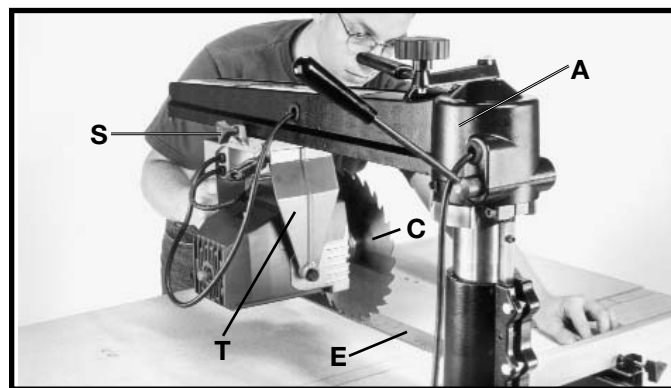
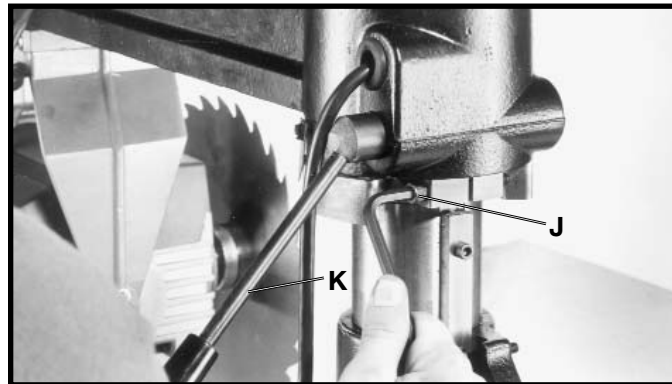

Fig. 33
Fig. 34
4. Loosen cutting-head clamp knob (S) Fig. 33, and slide cutting-head (T) the entire length of track arm (A) as shown to determine if blade (C) travels parallel to the square (E).
5. If an adjustment is necessary, loosen index ring locking screw (J) Fig. 34, and track arm clamp handle (K).
6. Rotate track arm (A) Fig. 33, until blade (C) travels parallel to square (E). Then tighten track arm clamp handle (K) Fig. 34.